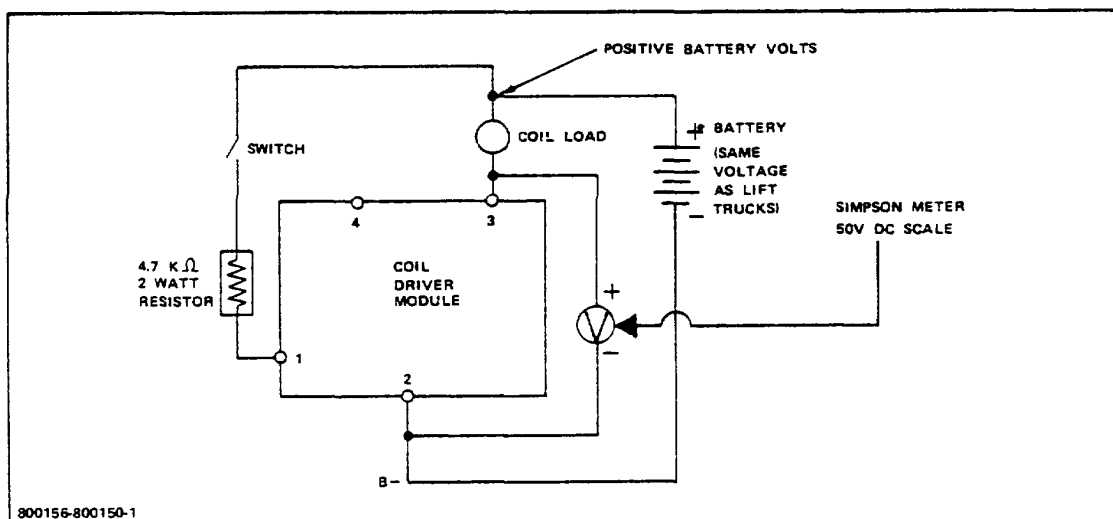

Figure 3-4. Driver Test Schematic
- (1) Remove the driver from the contactor panel.
- (2) Connect a coil load, resistor, switch, battery, and the driver as shown in Figure 3-4.
- (3) The voltmeter should read battery volts with the switch open.
- (4) Close the switch. The meter reading should be less than 3 volts.
- (5) Move the coil load from terminal 3 to terminal 4 and repeat the test.
- (6) Replace any driver that does not test as specified.